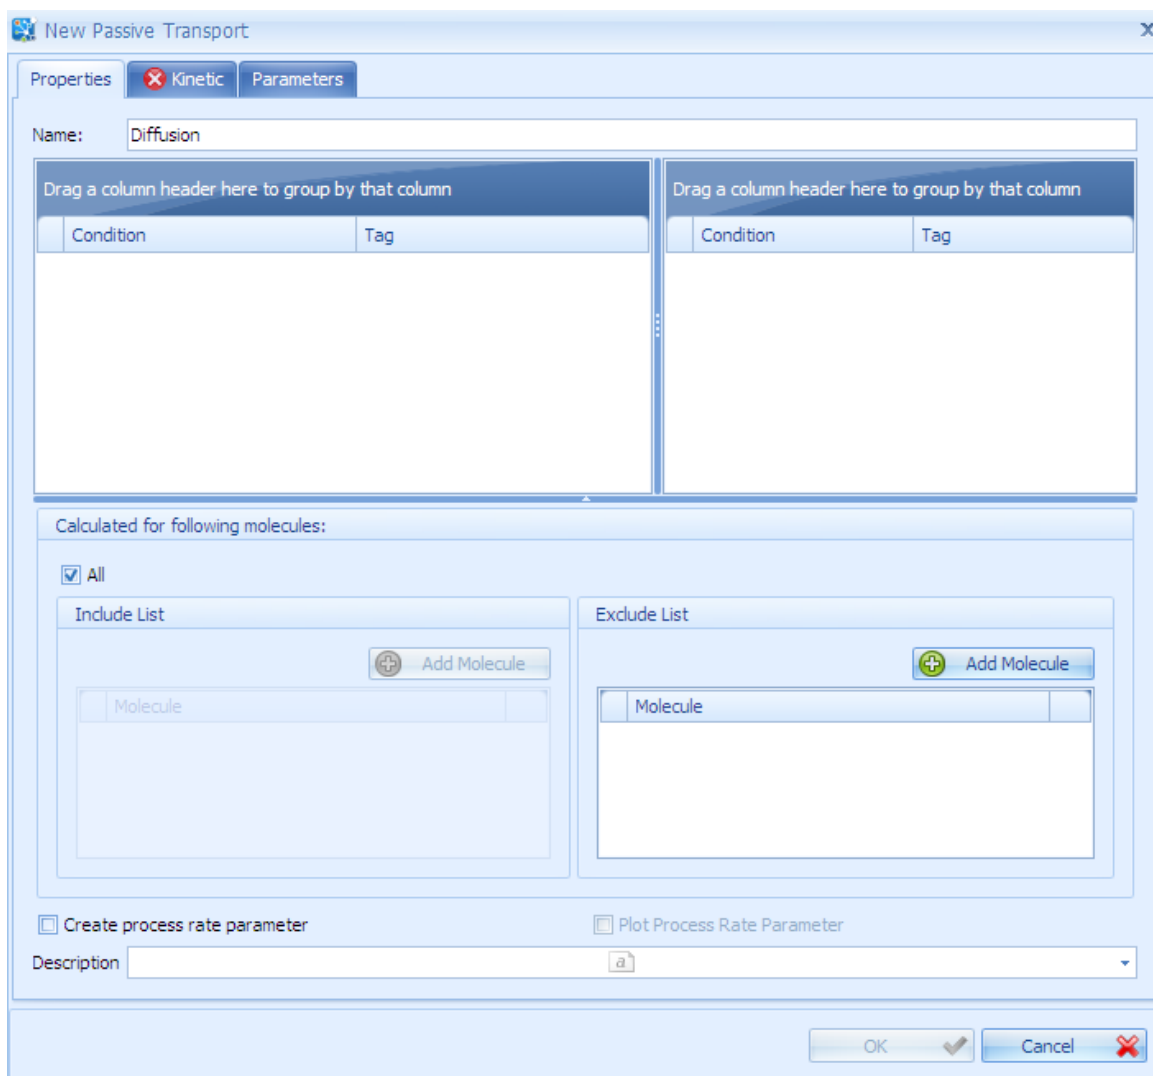

Figure 25.12. New Passive Transport Window
3. A "New Passive Transport" window opens, compare Figure 25.12.